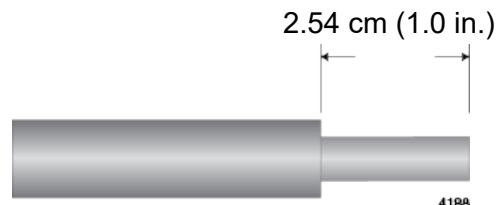

Figure 43. Stripping the Grounding Wire
1. Strip 2.54cm (1.0 in.) of insulation from the end of the solid grounding wire with a wire insulator stripper. Refer to Figure 43.